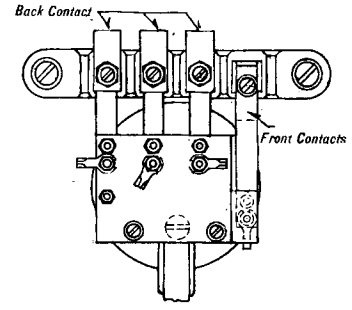

Fig. 6—Three Back and One Front Contacts
- (d) Three back and one front contacts (Figures 6 and 14).